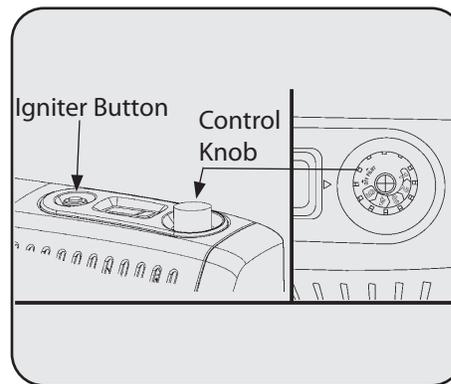

Figure 16
3. Push in gas control knob and slightly turn clockwise ↻ to the OFF position See Figure 16.